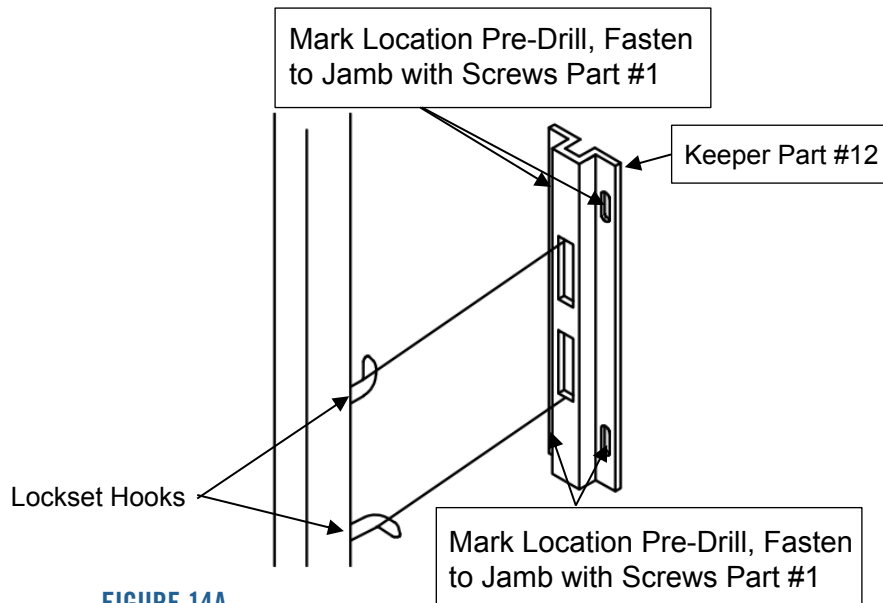
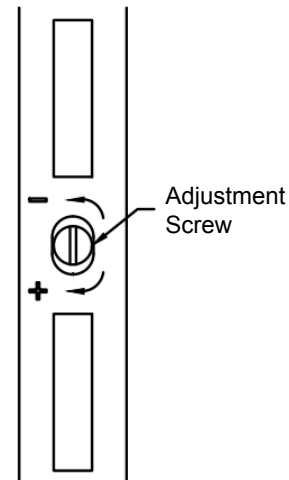

FIGURE 14A
FIGURE 14B
19. After the final roller adjustments, install the keeper (Part #12) into the lock side jamb (Part #7) by aligning with the lockset hooks on the panel and marking the location of the keeper's four screw holes onto the jamb. Next, pre-drill holes in the jamb at the marked locations using a $\frac{1}{8}$ " - $\frac{3}{16}$ " drill bit. Lastly, fasten the keeper to the jamb with screws (Part #1) as shown in figure 14a (use sealant to lubricate screws). After the keeper has been installed, adjust the throw on the hooks of the lockset to ensure a tight fit when the door is closed and locked by turning the adjustment screw located between the hooks shown in figure 14b.